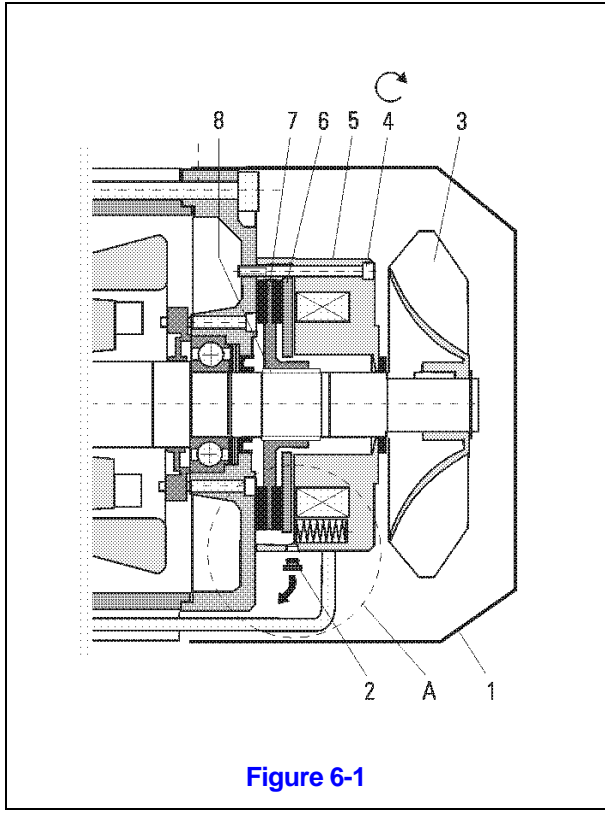

Figure 6-1
The RHN Hoist is equipped with a Counter, located on the face of the RPU Load Monitor Device. This counter registers and displays the operating hours of the hoist (See Figure 6-1). For the SLE21, the standard hour count is for high speed only. Counting both high speed and low speed is an optional feature. For SLE22, the standard hour count is for high and low speed.
- 1) Remove fan cover (1). See Figure 6-1.
- 2) Remove plug (2). See Figure 6-1.
6.3.4 Brake Rotor Replacement - See Figure 6-1.